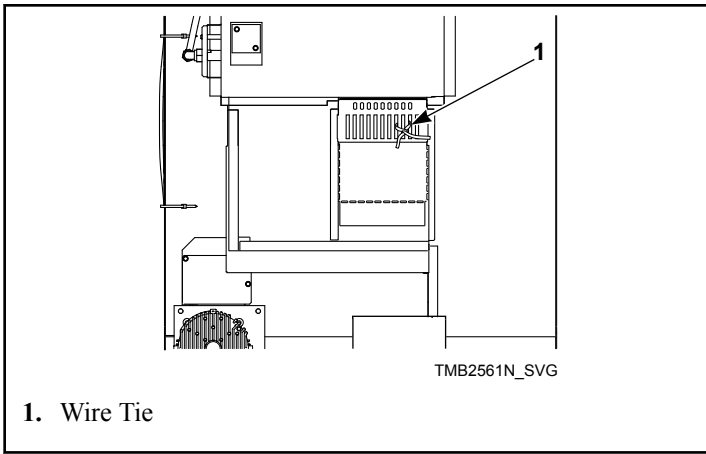

Figure 12
2. Remove and discard wire tie from the airflow switch so it can swing freely. Refer to *Figure 12*.